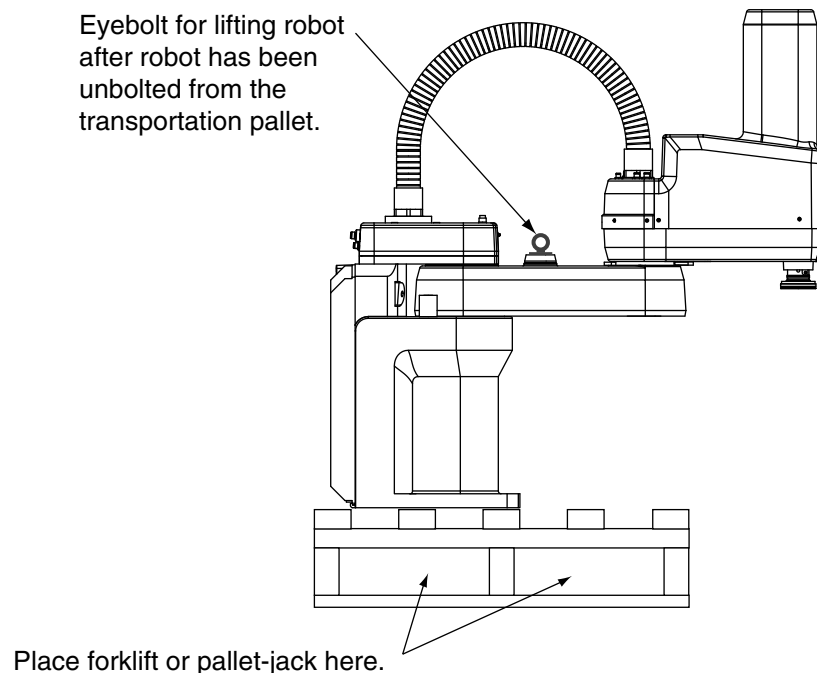

Figure 2-1. Cobra Robot on a Transportation Pallet
Use a forklift, pallet jack, or similar device to transport and store the packaged equipment (see Figure 2-1).
2. While the robot is still bolted to the transportation pallet, connect the hydraulic lift to the eyebolt at the top of the inner link (see Figure 2-1 on page 17). Take up any slack, but do not lift the robot at this time.